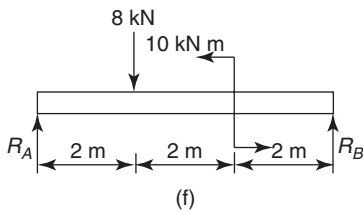

Figure 5.31
6. Figure 5.31  $[R_A = 7 \text{ kN}, R_B = 1 \text{ kN}]$